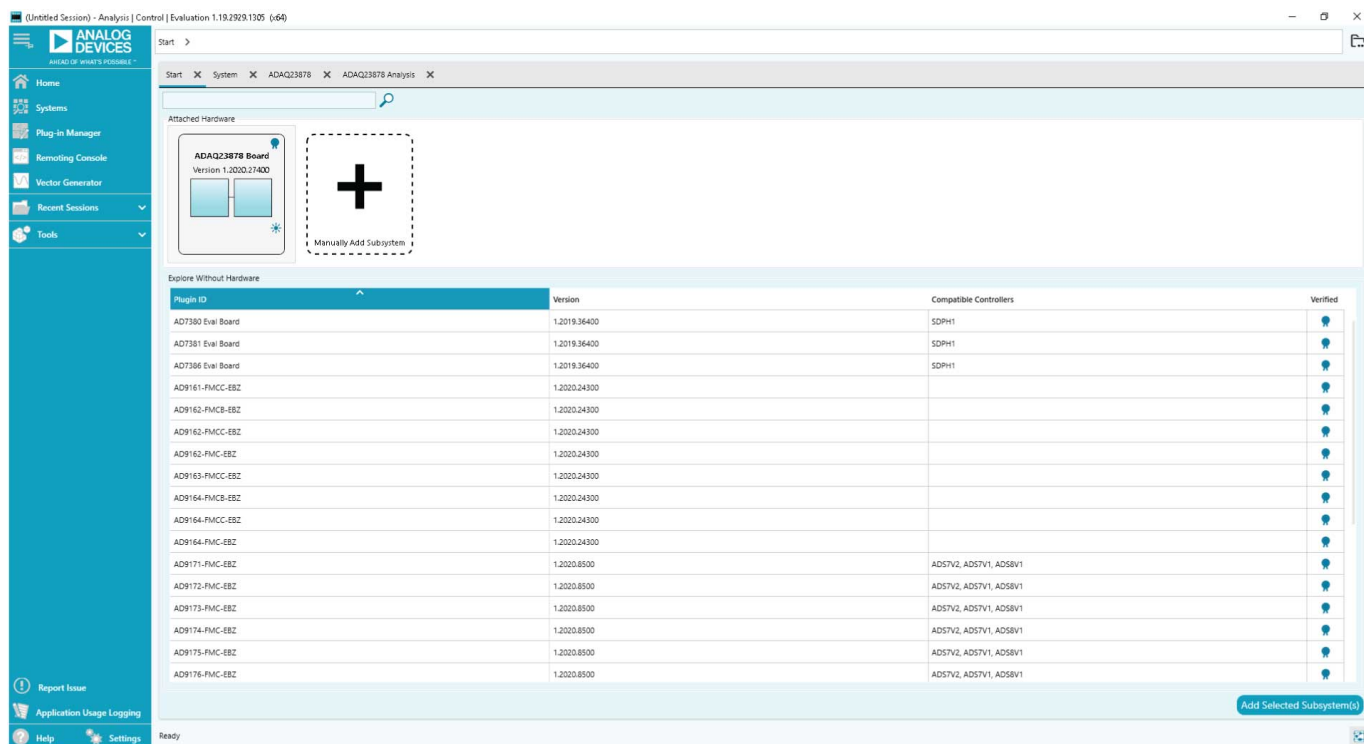
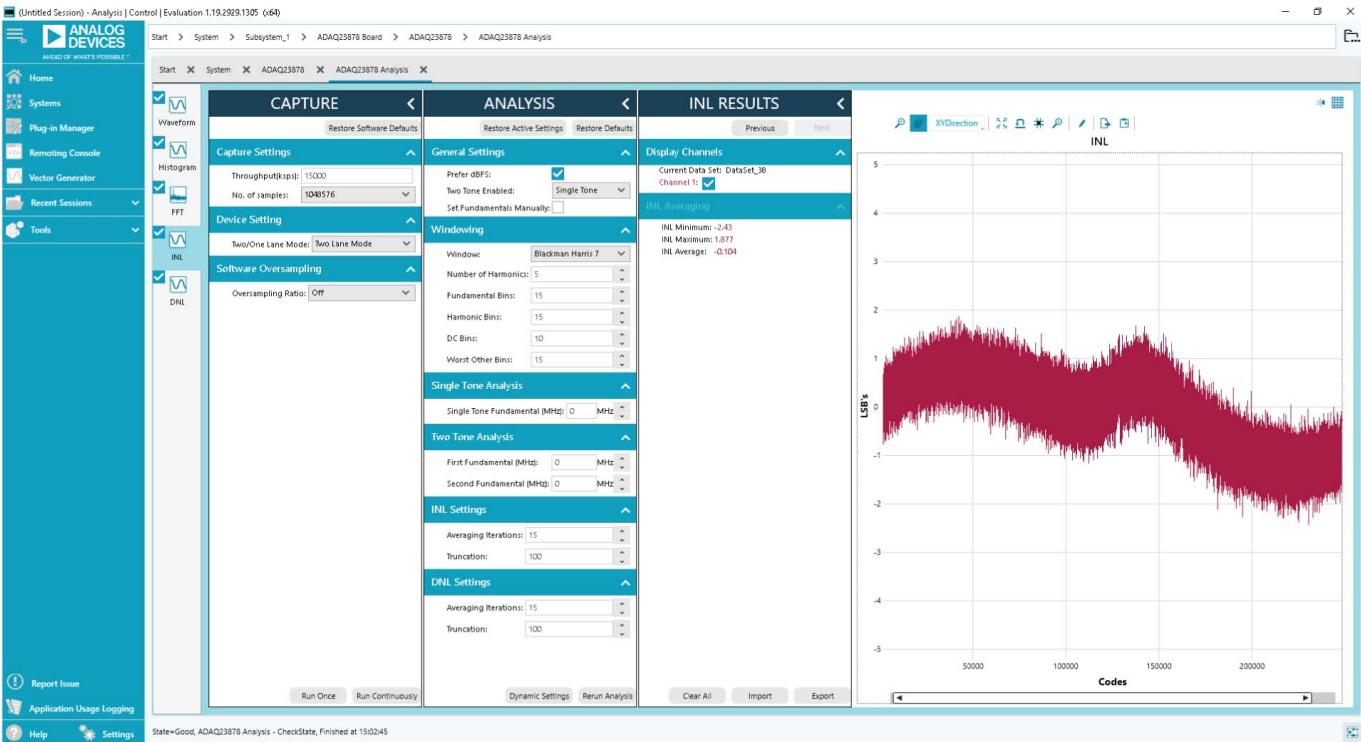
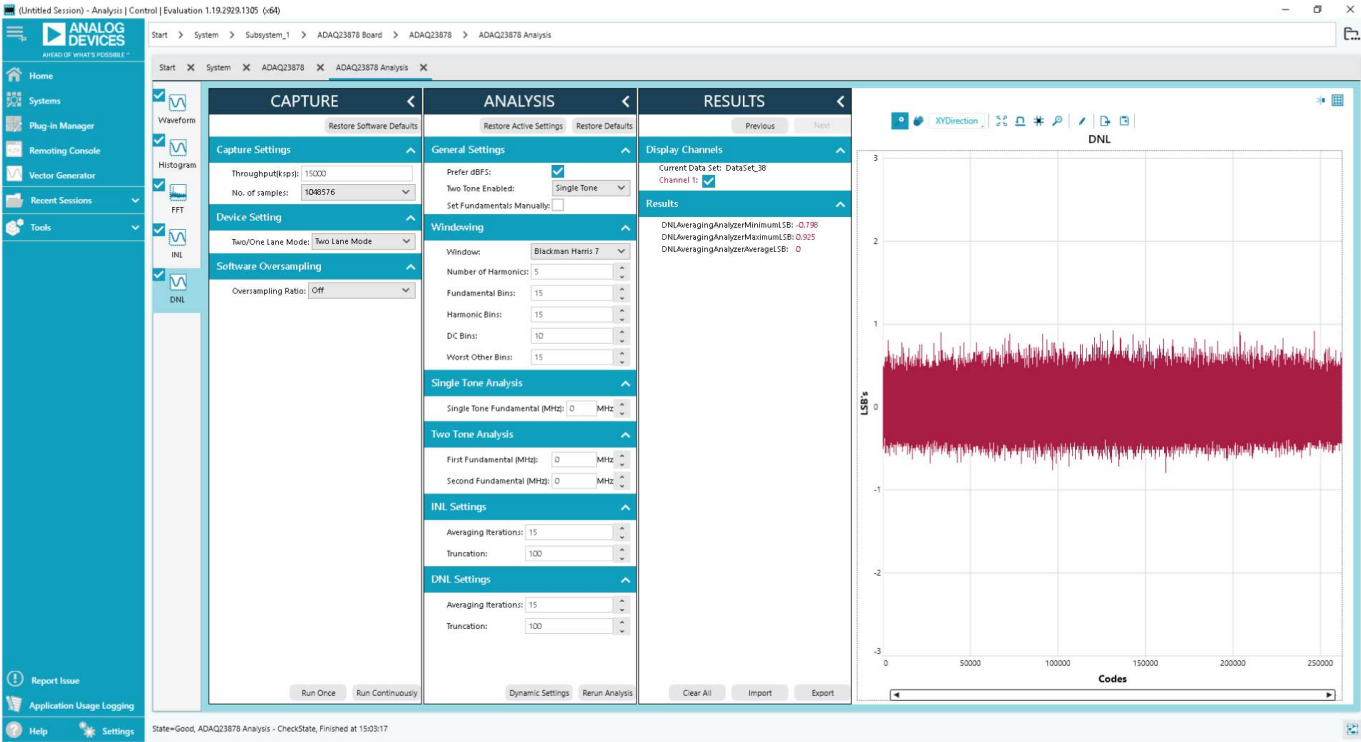

Figure 15. ACE Software Main Window
Figure 22. INL Tab
Figure 23. DNL Tab
1. From the **Start** menu, select **All Programs > Analog Devices > ACE > ACE.exe** to open the ACE software main shown in Figure 15. The **ADAQ23876 Board** or **ADAQ23878 Board** icon appears in the **Attached Hardware** section, depending on which evaluation board is connected. Note that Figure 15 through Figure 23 show the ACE software with the EVAL-ADAQ23878FMCZ connected.
To perform a linearity test, apply a sinusoidal signal with 0.5 dB above full scale to the EVAL-ADAQ23876FMCZ or EVAL-ADAQ23878FMCZ at the VIN+ and VIN- SMA inputs. Set the number of hits per code and adjust to the desired accuracy. Using a large number of hits per code results in a significant test time. Figure 22 and Figure 23 display captured data that includes the \pm INL and \pm DNL positions.